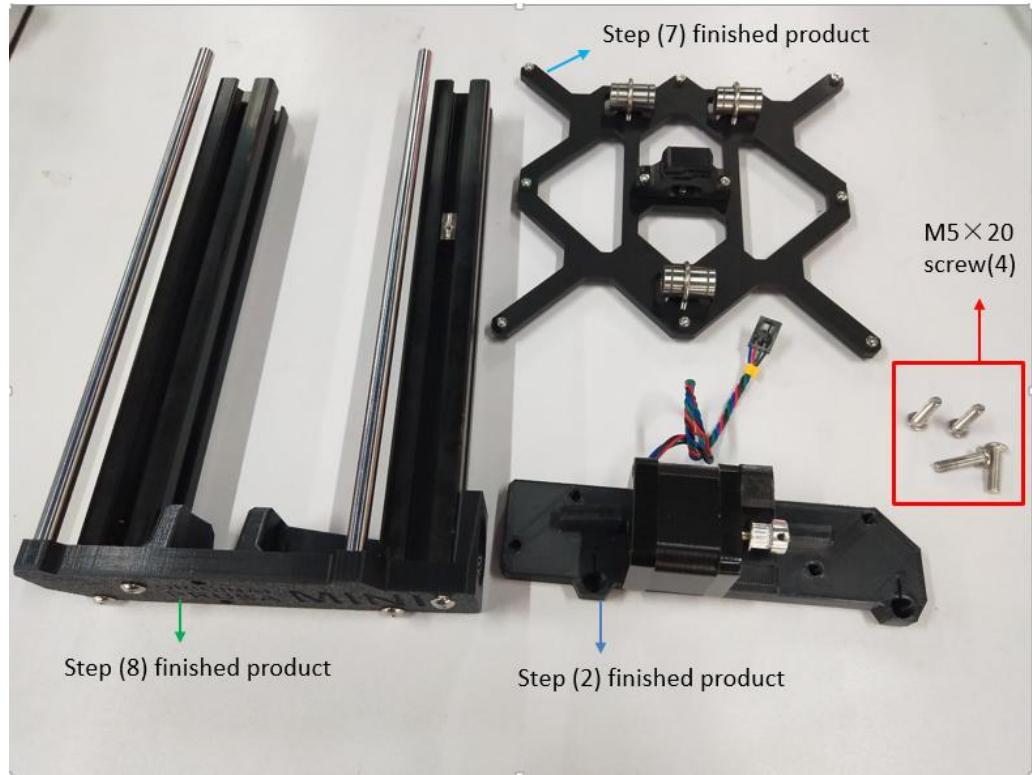

Figure 1.9.1
**Step 1-9-1:** As shown in Figure 1.9.1, prepare the materials and check whether the quantity of materials is correct, and prepare for the next installation.